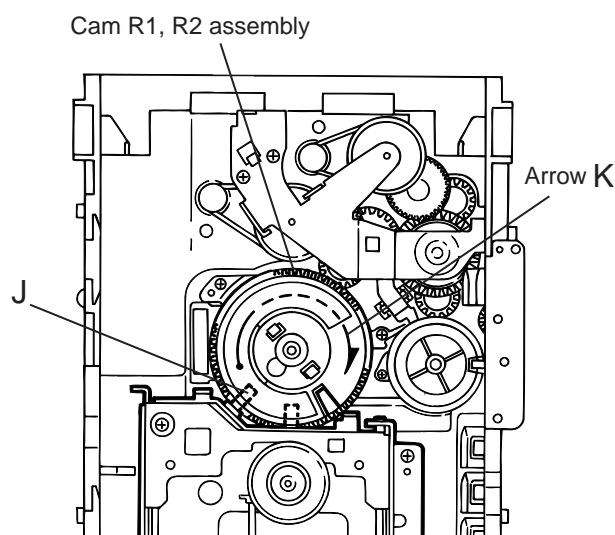

Fig.11
■ Removing the CD traverse mechanism (See Fig.11 and 12)
1. For dismounting only the CD traverse mechanism without removing the CD loading mechanism assembly, align the shaft "J" of the CD loading mechanism assembly to the position shown Fig.11 while turning the cam R1 and R2 assembly in the arrow direction "K".